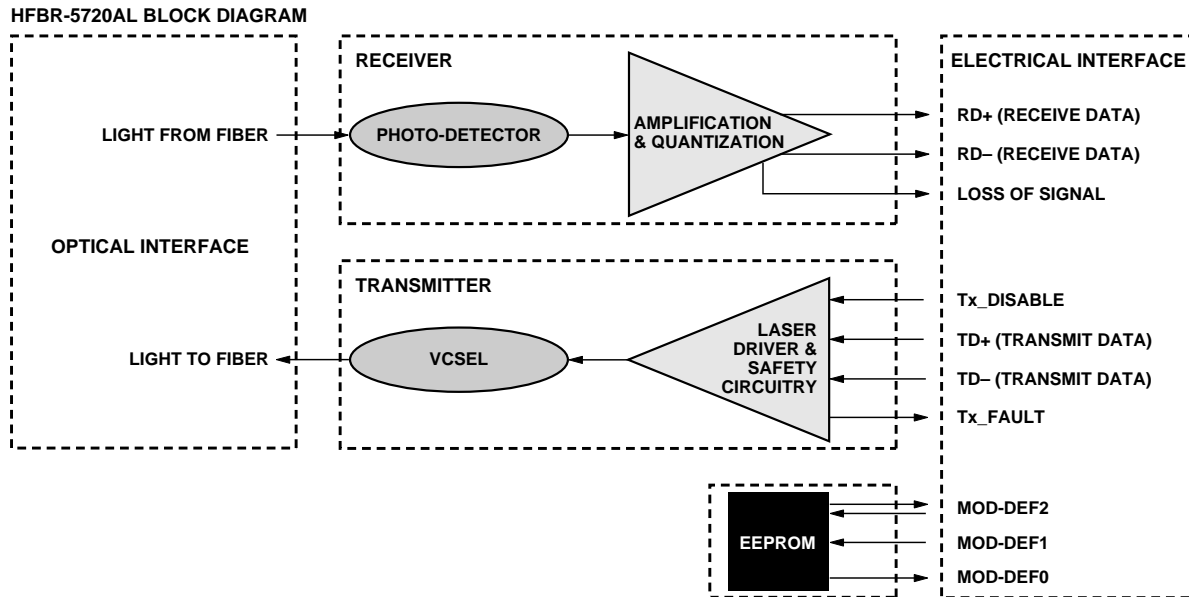
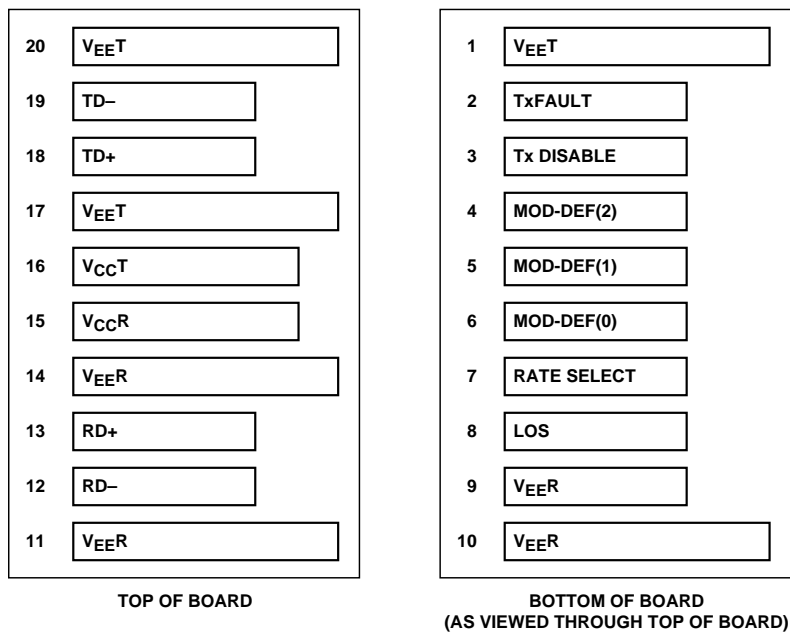

Figure 1. Transceiver functional diagram.
Figure 2. Connection diagram of module printed circuit board.
Figure 1 illustrates the major functional components of the HFBR-5720AL/ALP. The connection diagram of the module is shown in Figure 2. Figure 7 depicts the external configuration and dimensions of the module.
Ground, (2) Power, and then (3) Signal pins, making contact with the host board surface mount connector in that order. This printed circuit board card-edge connector is depicted in Figure 2.
Agilent's HFBR-5720AL/ALP fiber-optic transceiver is designed to accept industry standard differential signals. In order to reduce the number of passive components required on the customer's board, Agilent has included the functionality of the transmitter bias resistors and coupling capacitors within the fiber optic module. The transceiver is compatible with an "AC-coupled" configuration and is internally terminated. Figure 1 depicts the functional diagram of the HFBR-5720AL/ALP.